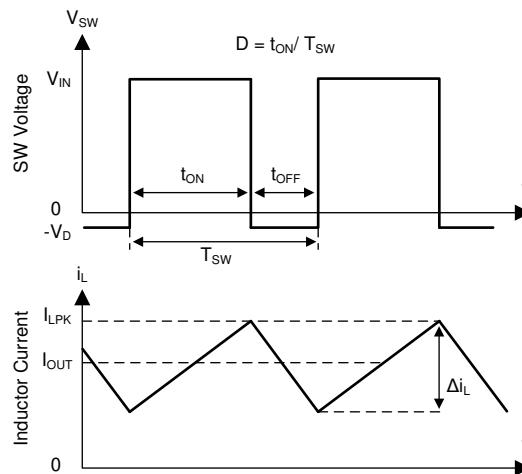

图 10. SW Node and Inductor Current Waveforms in Continuous Conduction Mode
The following operation description of the LM76002/LM76003 refers to the *Functional Block Diagram* and to the waveforms in 图 10. The LM76002/LM76003 supplies a regulated output voltage by turning on the internal high side (HS) and low side (LS) NMOS switches with varying duty cycle (D). During high-side switch on-time t_{ON} , the SW pin voltage V_{SW} swings up to approximately V_{IN} , and the inductor current i_L increase with linear slope. The HS switch is off by the control logic. During the HS switch off-time, t_{OFF} , the LS switch is turned on. Inductor current discharges through the LS switch, which forces the V_{SW} to swing below ground by the voltage drop across the LS switch. The regulator loop adjusts the duty cycle to maintain a constant output voltage. The control parameter of buck converter is defined as duty cycle $D = t_{ON} / T_{SW}$. In an ideal buck converter, where losses are ignored, D is proportional to the output voltage and inversely proportional to the input voltage: $D = V_{OUT} / V_{IN}$.